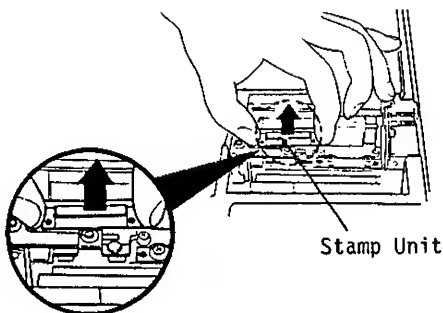

Fig. 6
3. Hold the both sides of the stamp unit with your fingers and remove it by pulling it upward. (Fig.6)